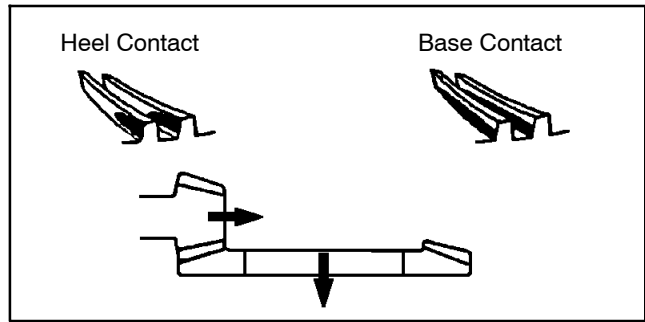

Figure 49
Study the different contact patterns (Figs. 49 and 50) and correct gear engagement as necessary.
1. If contact is toward the heel or base of the gear (Fig. 49):